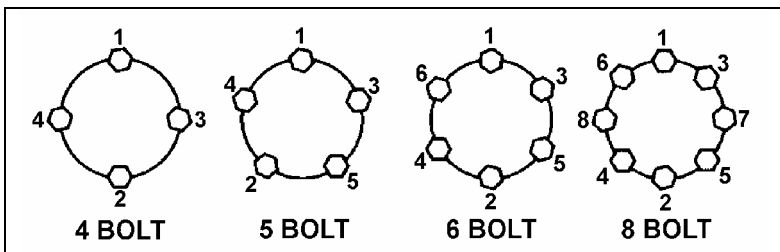

Figure 8-1 - Wheel Torque Sequence
- Tighten lug nuts in the sequence shown in figure 8-1.